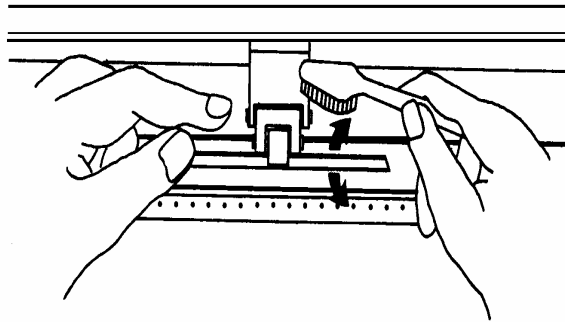

Figure 6-1
- ❖ Use a bristle brush (a toothbrush is acceptable) to remove dust from the drum surface. Rotate the drum manually while cleaning. Refer to Figure 6-1